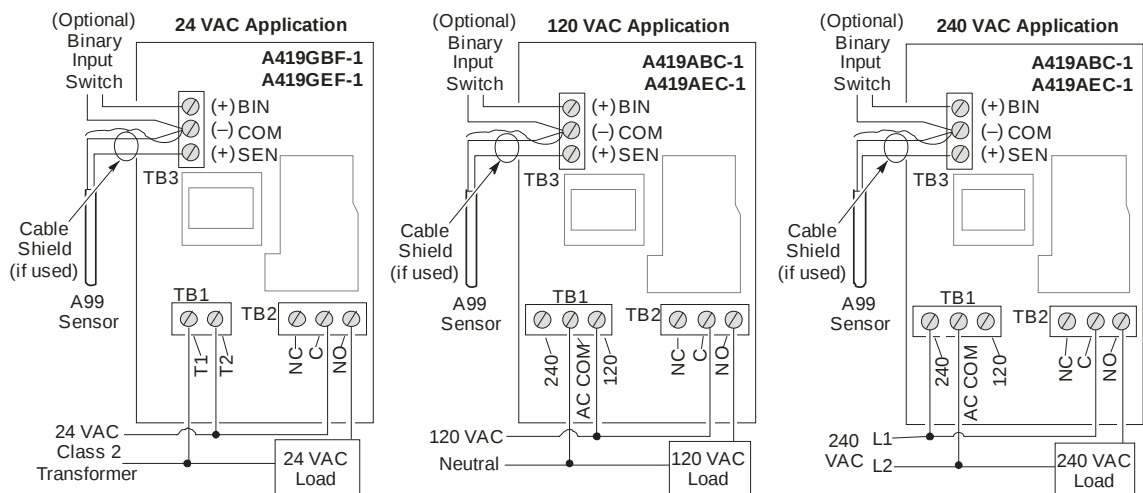

Figure 3: Typical Wiring for the A419 Series Temperature Controls: 24, 120, and 240 VAC Applications
Observe the following guidelines and see Figure 3 and Table 1 when wiring the A419 control to your equipment.
- A99 temperature sensors are not polarity sensitive. Wire the leads to (+) **SEN** and (-) **COM** on the sensor terminal block (TB3). See Figure 3.
Temperature Offset (OFS) establishes a set secondary **Setpoint** and **Differential** values that may be invoked to control an application when a circuit is closed between the binary input (**BIN**) and common (**COM**) terminals (and **BIN** appears on the display). See Figure 3. Offset range is 0 to 50F° or C° (in 1-degree increments). A typical application might use a switching time clock to invoke night-setback temperature settings.
- b. Use a reliable AC voltmeter to check the voltage between the **COM** and **120V** or **240V** terminals on-line voltage models and the two **24V** terminals on low-voltage models. See Figure 3.